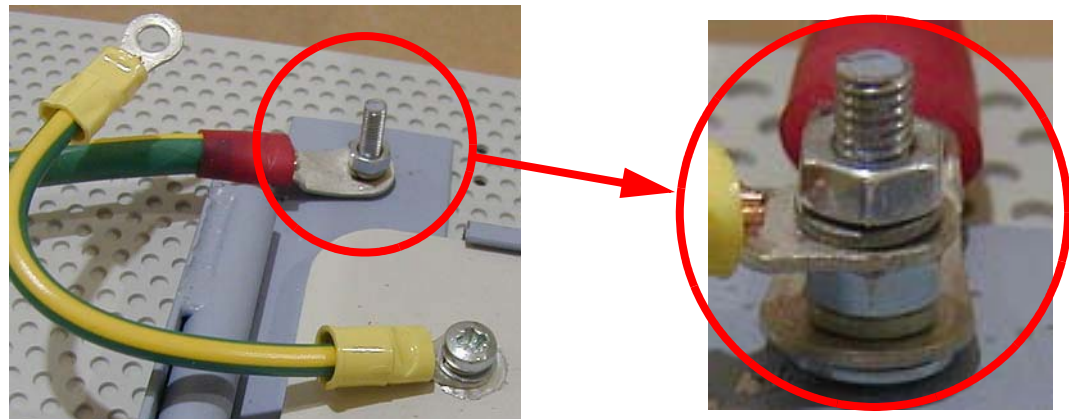

Figure 2-39 Monitor Grounding Wire
- 3.) Connect the ground cable and the ground wire jumper (5115172) to the ground stud on the monitor handle bracket as shown in Figure 2-39.